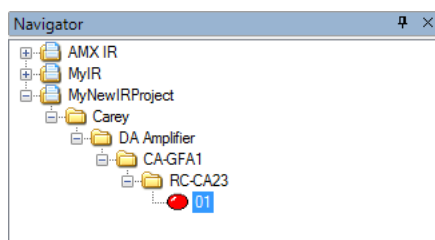

FIG. 19 New Hand Control added to Navigator window
7. Click **Finish** to save the changes, generate the hand control file and add it to the User Database file, visible in the Navigator window (FIG. 19).